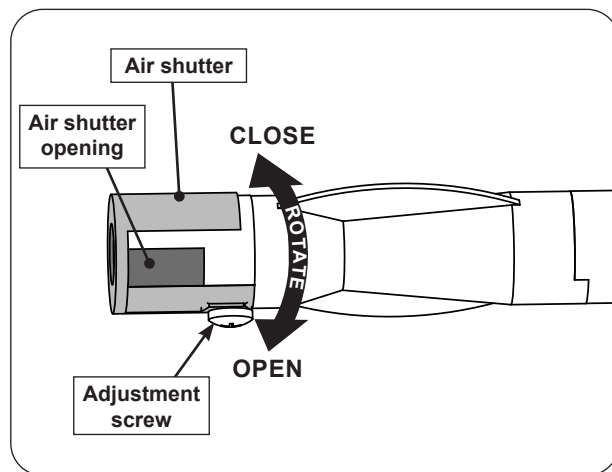

Fig. 40-2 Side burner air shutter adjustment detail
2. Loosen the adjustment screw with a screwdriver, then carefully rotate the shutter to open or close it. See Fig. 40-2 for details.